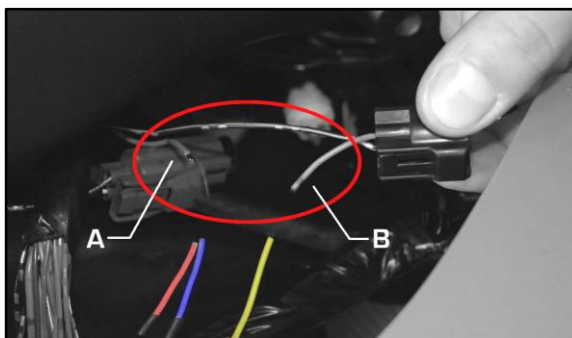
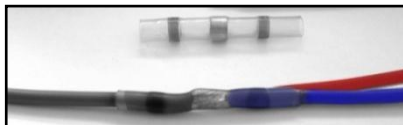
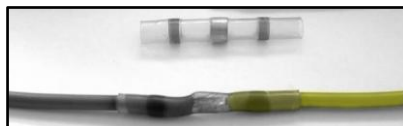

Figure 1
Figure 2
Figure 3
6. Cut the positive pole of ignition coil (on injector) near to the connector. (fig.1)
7. Connect the red and blue wire (of GRIPone cable) to the A end (fig. 1) by the heatshrinkable head junction (fig. 2).
8. Connect the yellow wire (of GRIPone cable) to the B end (fig. 1) by the heatshrinkable head junction (fig. 3).